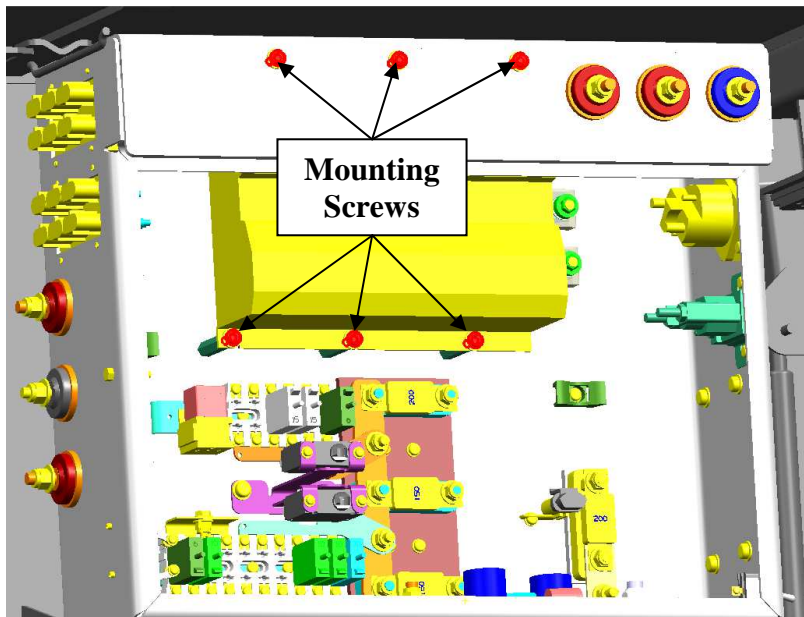

Figure 2: Fuse Box with Panel Removed
4. Using figure 2 as a reference, remove the six highlighted (in red) screws.